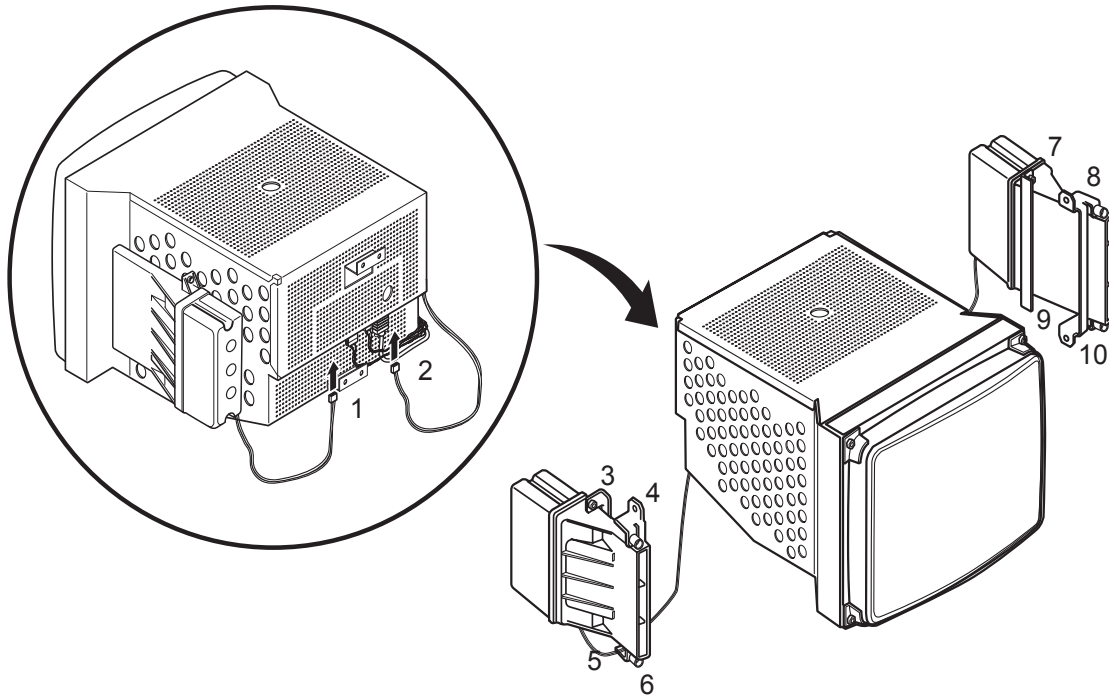

Figure 8-44 Speaker Assy Disassembly
- 2.) Unscrew four screws (3-6) on the right side and (7-10) on the left to remove the speakers. Refer to Figure 8-44 on page 8-10 .